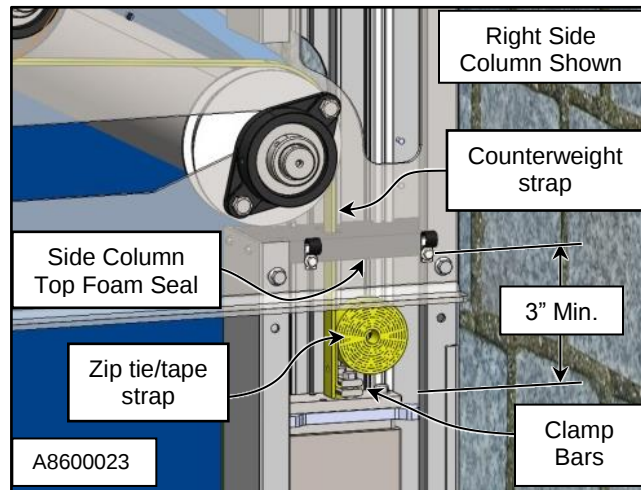

Figure 48
6. Remove the tape wrapped around the loose end of the strap. (See Figure 48)